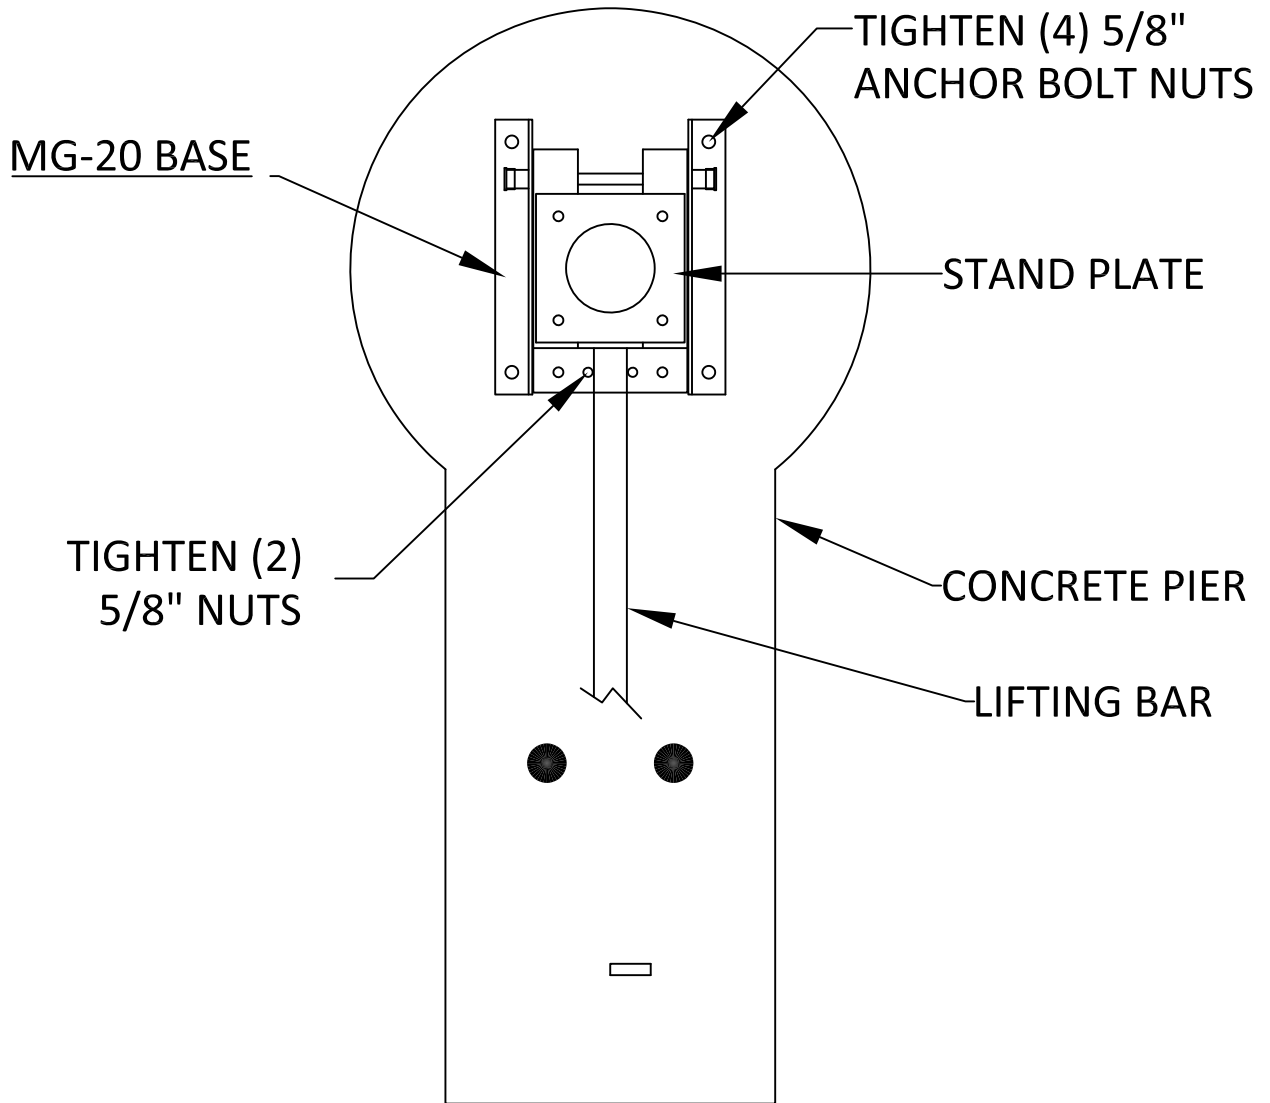
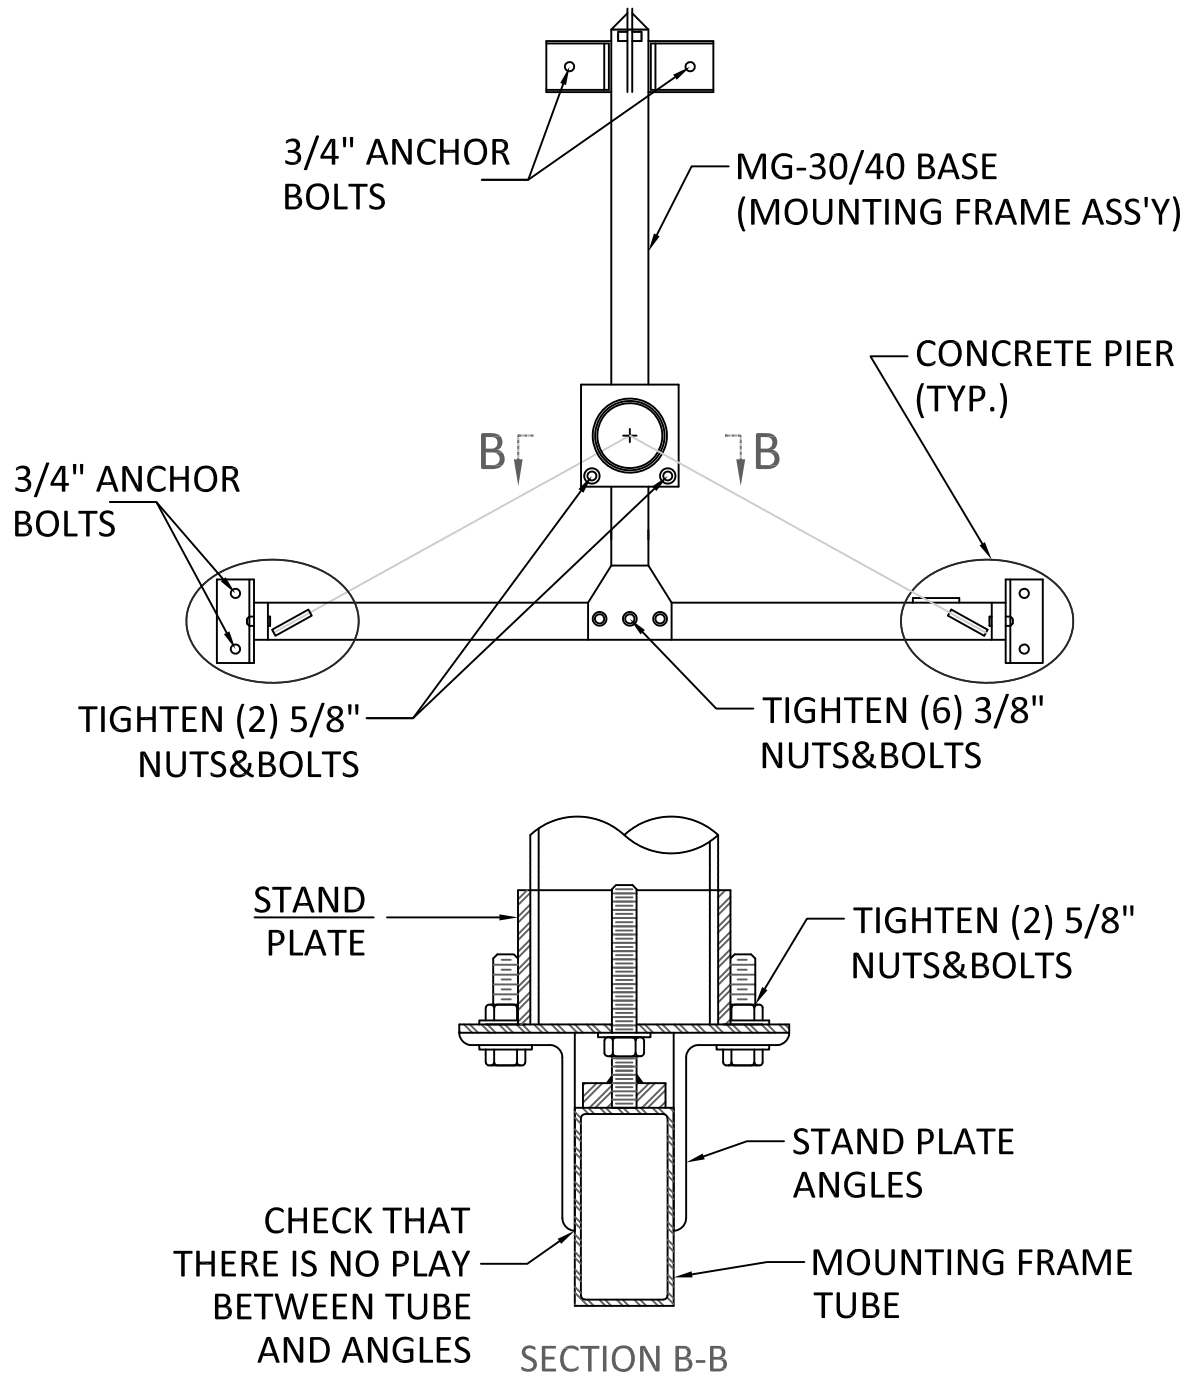
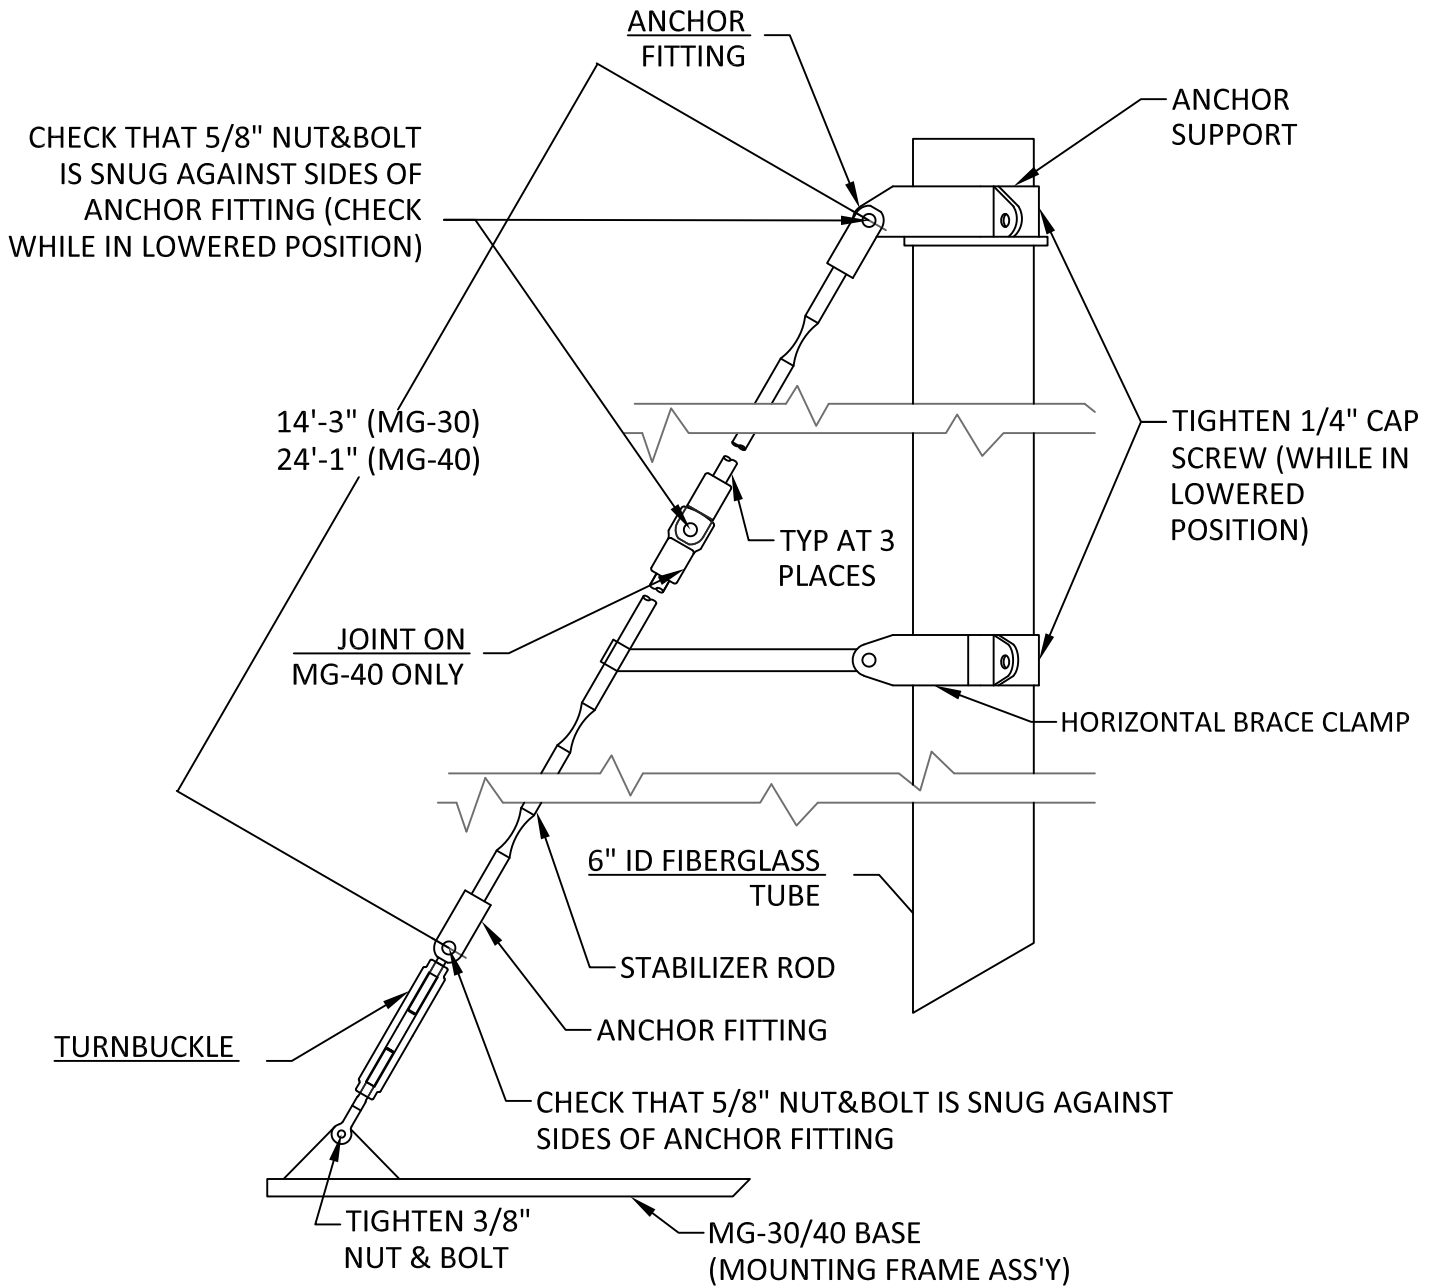
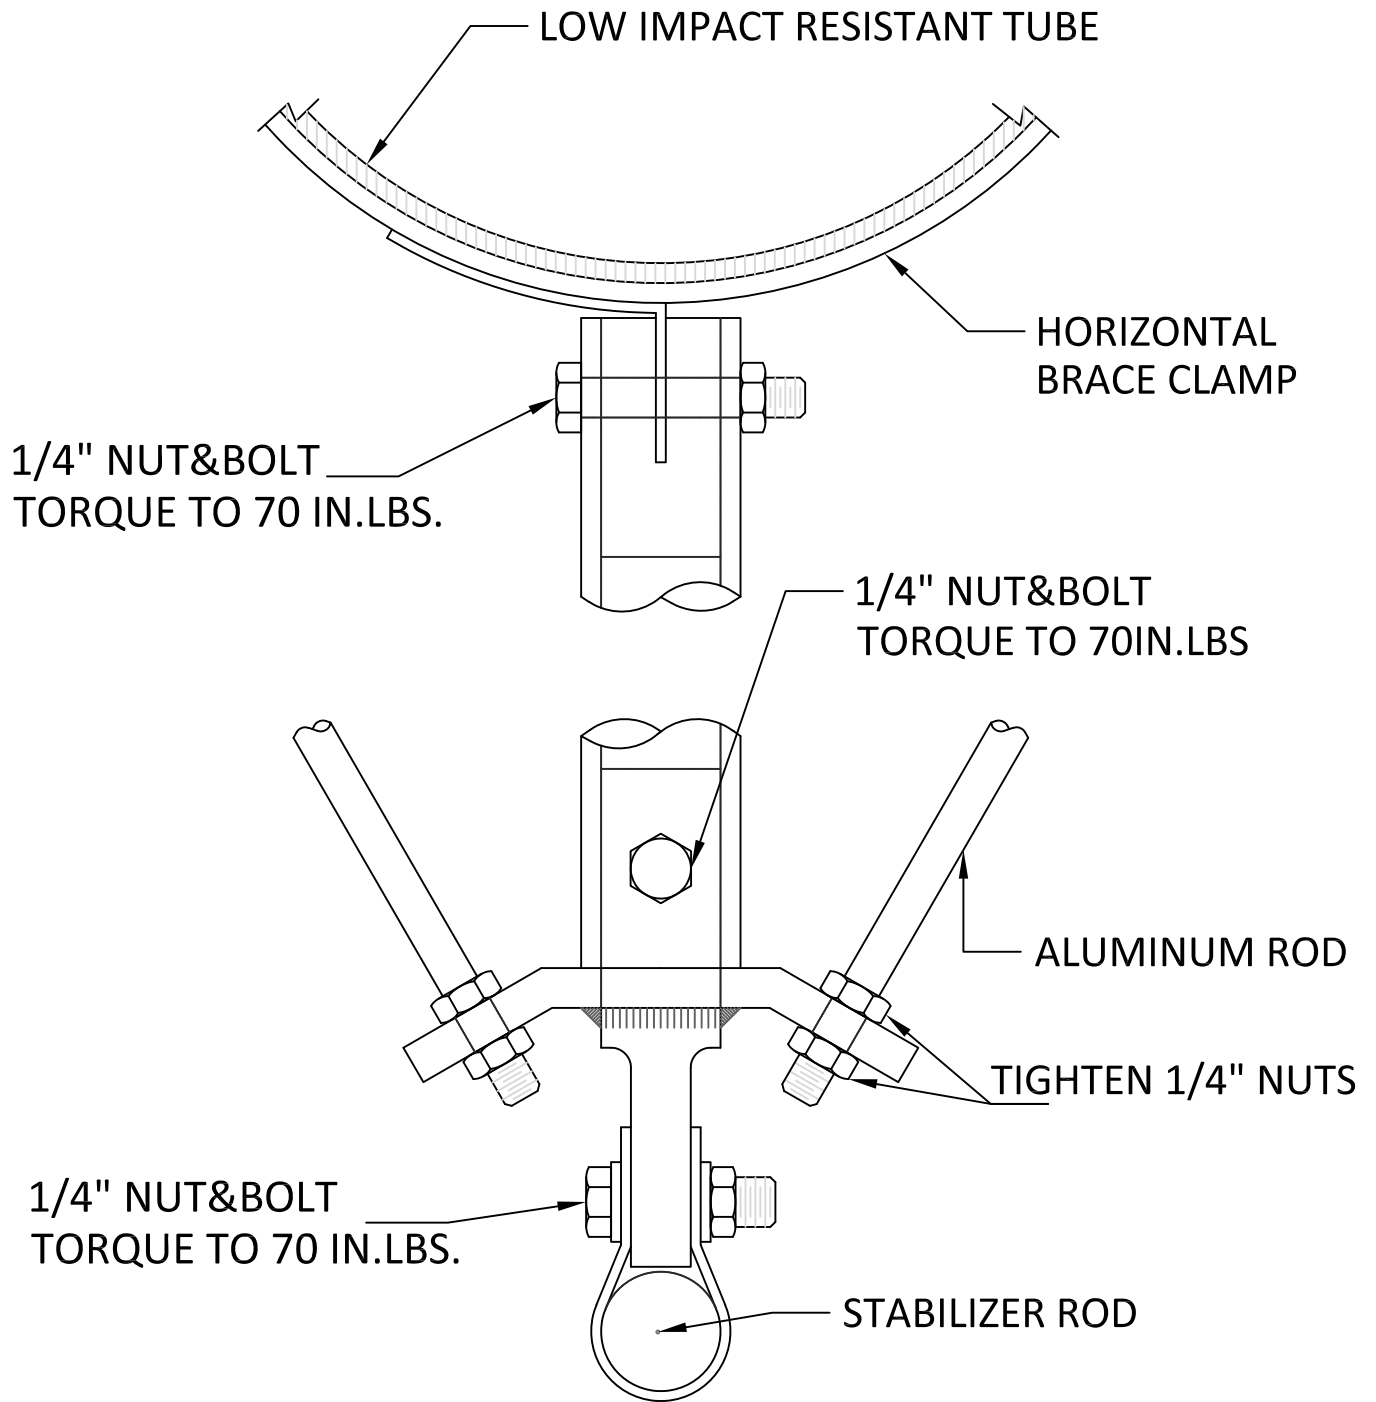

FIGURE 6-6
FIGURE 6-7
FIGURE 6-8
FIGURE 6-12
- B.** With the MG-20 LIR structure in the raised position, tighten the (4) 5/8” nuts that hold the aluminum stand plate to the MG-20 base. Also, tighten the (2) 5/8” nuts that hold the lighting bar to the MG-20 base (See Fig. 6-6). Use a 15/16” combination wrench. With the MG-30 or MG-40 LIR Structure in the raised position, tighten the (2) 5/8” nuts and bolts that attach the stand plate angles to the stand plate (See Fig. 6-7). Also check tightness of the (3) 5/8” nuts and bolts that are located on the upper end of the turnbuckle (See Fig. 6-8) Do not apply excess torque to these (3) 5/8” turnbuckle bolts. Just check that they are snug against the sides of the aluminum anchor fitting. Use two 15/16” combination wrenches for tightening the 5/8” nuts and bolts. Now tighten the (6) 3/8” nuts and bolts that attach the splice plate to the channel member on the LIR structure base. (See Fig 6-7) Also check tightness of the (3) 3/8” nuts and bolts on the lower end of the turnbuckle (See Fig. 6-8). Use two 9/16” combination wrenches for tightening the 3/8” nuts and bolts.
- b.** MG-30/40 LIR Structures: With the MG-30/40 LIR structure still in the lowered position check tightness of all ¼” nuts and bolts on the horizontal stabilizers.(See Fig. 6-12) Use a torque wrench, 7/16” socket and 7/16” combination wrench to torque these nuts and bolts to 70 in. lb. + 5 in. lb. – 0 in. lb. The ¼” nuts on the aluminum rods should be tightened with two 7/16” combination wrenches. Also check the tightness of the (3) 5/8” nuts and bolts at the upper end of the stabilizer rod. Do not apply excess torque to these nuts and bolts. Just insure that they are snug against the sides of the aluminum anchor fitting. (See Fig. 6-8) Tighten the (3) 5/8” nuts and bolts on the anchor support. Use two 15/16” combination wrenches for tightening these 5/8” nuts and bolts. Now tighten ¼” cap screw on horizontal brace clamps with a 3/16” Allen wrench. (See Fig. 6-8)